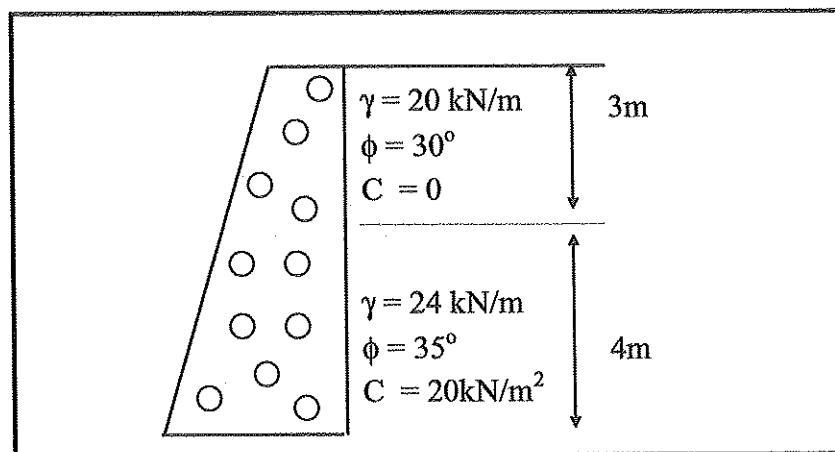

Figure B2 (b) /Rajah B2 (b)
- (b) A retaining wall is built during the excavation activity as shown in Figure B2(b) to bear two soil layers behind it. Despite of passive pressure in front of the retaining wall.